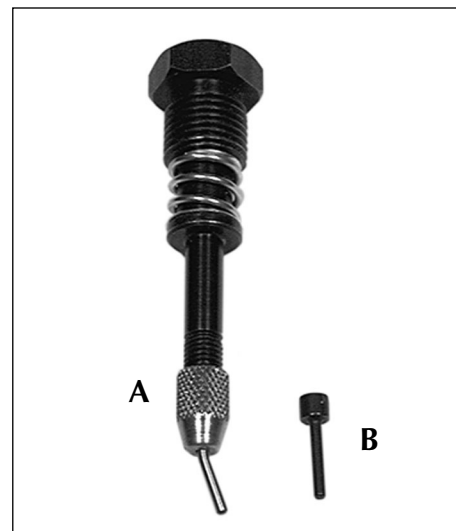

FIG 31
2. Unscrew the knurled retaining nut, see "A" FIG 31, remove the old pin and replace it with a new one, see "B" FIG 31.